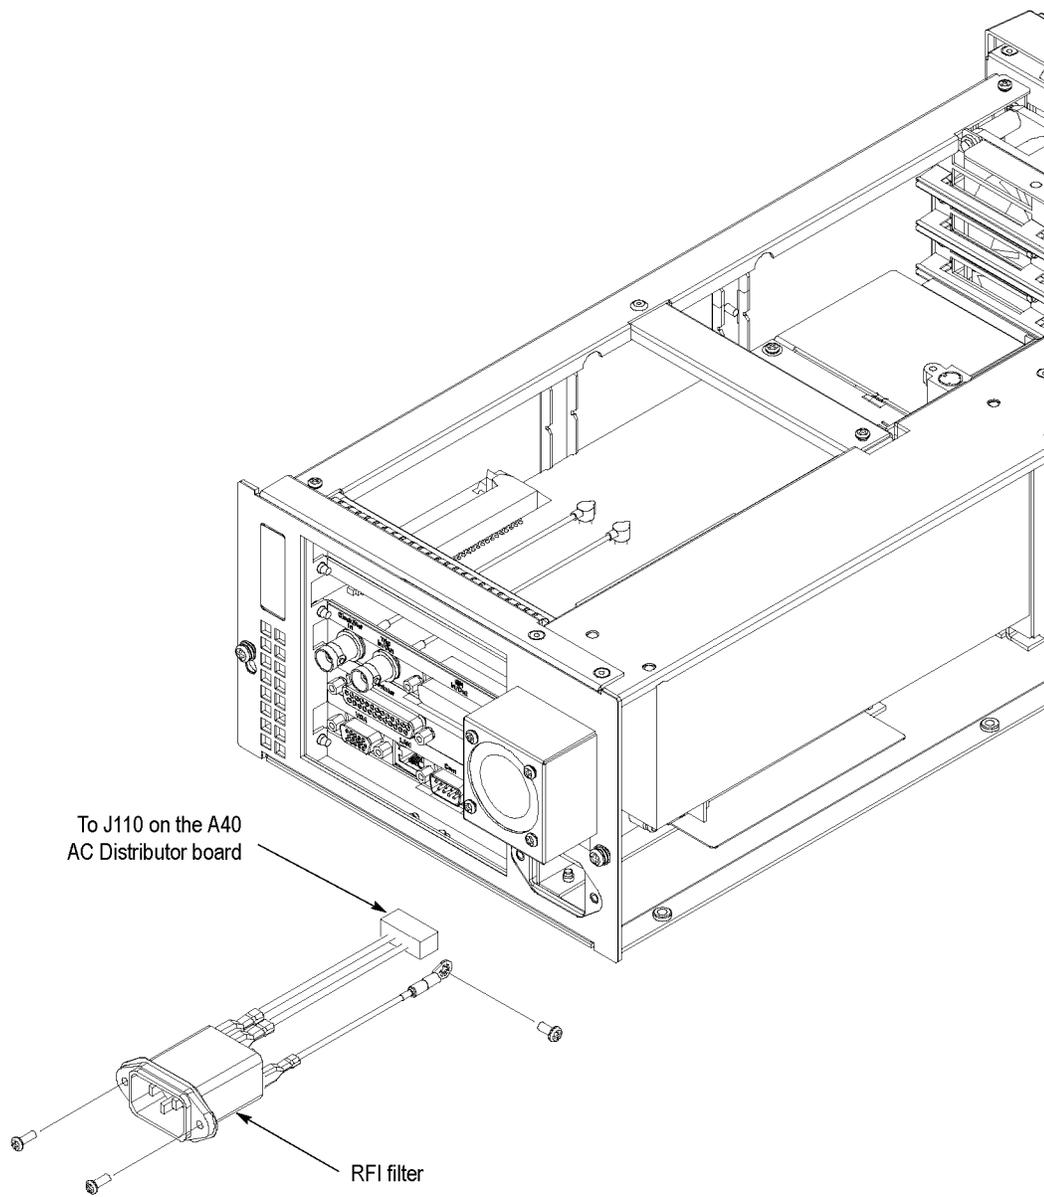

Figure 3-16: RFI filter removal
3. Remove the RFI filter: (See Figure 3-16.)